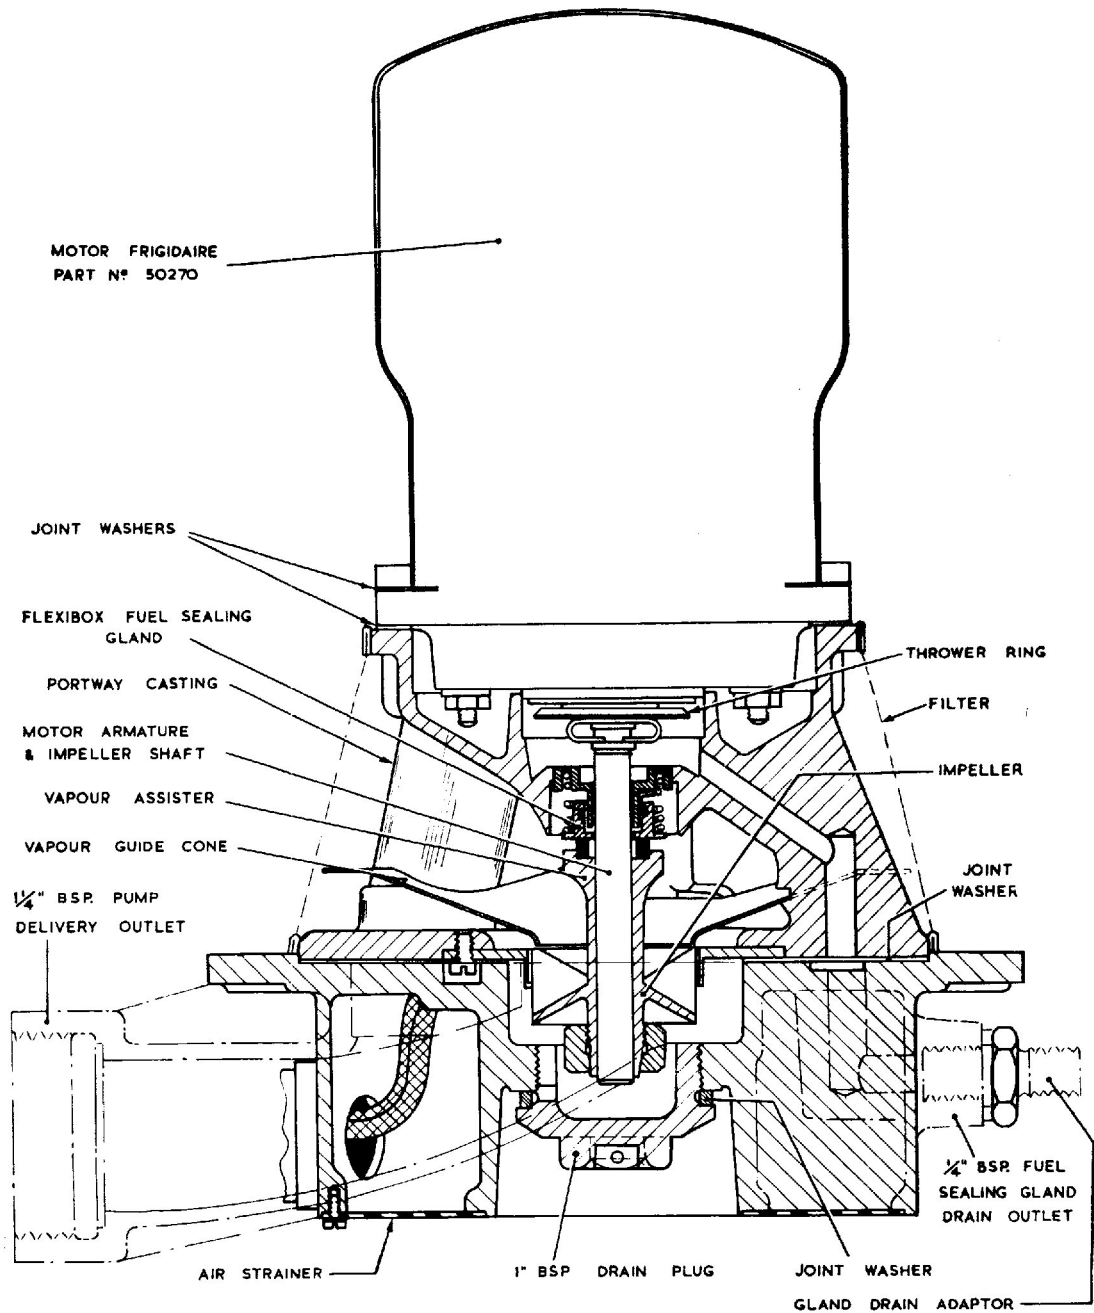

Fig. 2. Sectional view of PUL 403, Mk. I fuel pump
2. A sectional view of the pump is shown (fig. 2), and consists mainly of a driving motor, supported in the upper end of the pump body, or portway casting, which in turn is secured to the pump base assembly. A paper washer is provided as a joint, together with a Hermetical Wellseal jointing compound, between the upper face of the pump base, and the portway casting. Fourteen $\frac{7}{8}$ in. clearance holes, equally spaced around the flange, permit the pump to be bolted to the fuel tank, into which the body of the pump extends. Two $\frac{1}{4}$ in. B.S.F., tapped holes, diametrically opposite